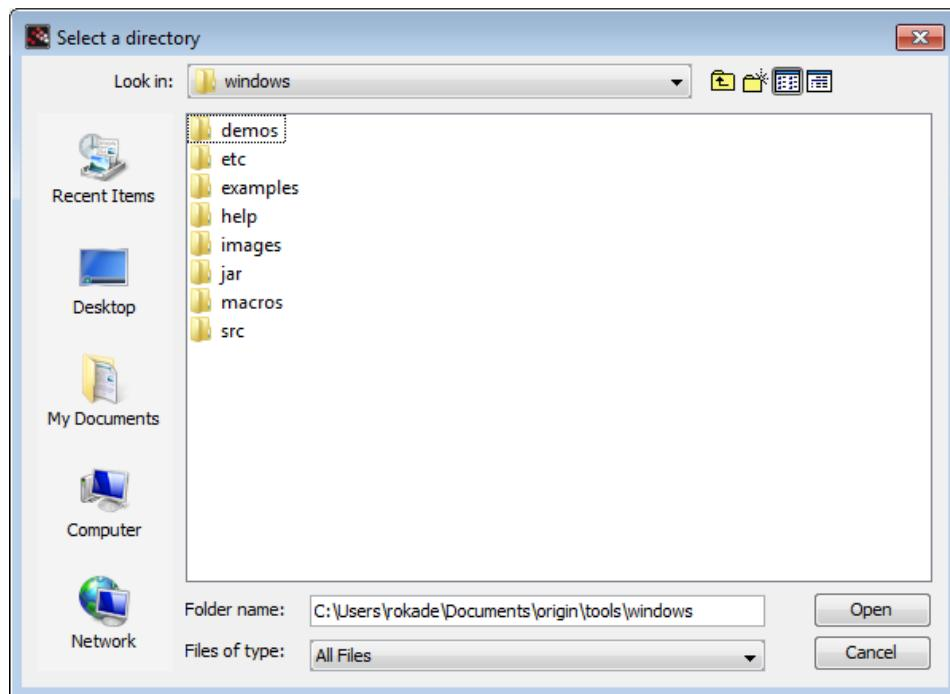

Figure 3.8: Browsing toolbox directory
3. Then, one has to browse to the toolbox folder **Origin/tools/windows** or **Origin/tools/linux**, as the case may be, and click on, **open**, as shown in Fig. 3.8.